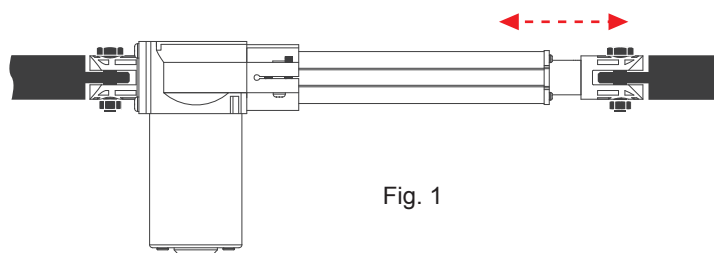

Fig. 1
- The load should be applied along the axis of the actuator (Fig. 1)